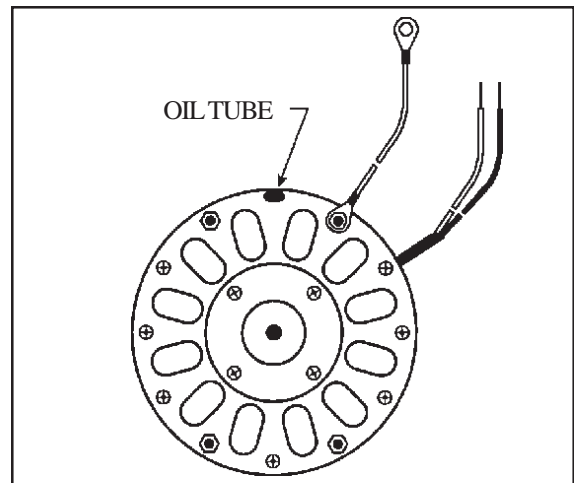

FIGURE 10
The bearings of the fan motor should be oiled every twelve (12) months with S.A.E. 20 oil. (See Figure 10).